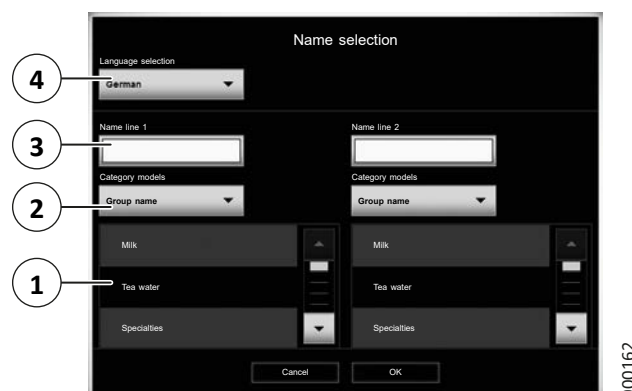

Fig. 29: Selecting or entering a name
- The naming is made in a similar dialog as in Fig. 29.